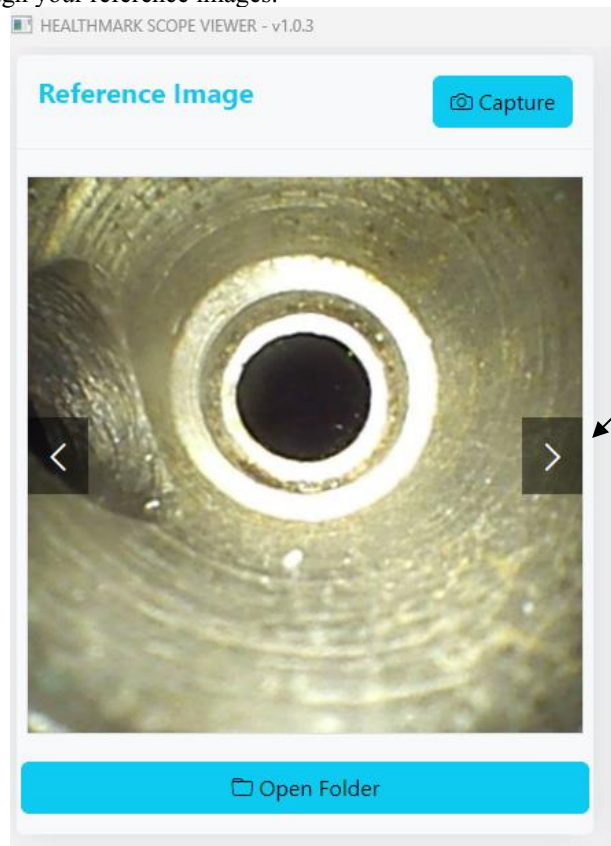

Figure 10
- b. When your mouse is over the image, two arrows (forward and reverse arrows) will appear (shown in **Fig. 10**) to allow you to scroll through your reference images.